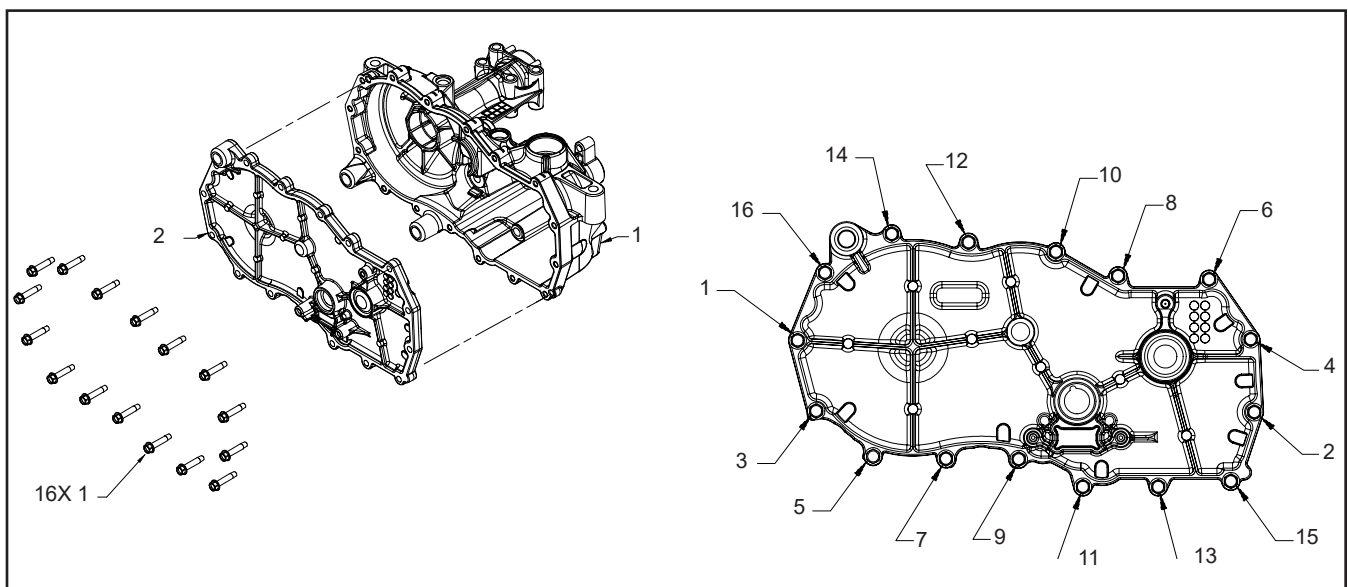

Figure 6. Side Cover
Refer to figure 6.
5. Remove the side housing screws (7).
6. Pull the side housing (2), leaving the axle (94) and bull gear (91) assembled in the main housing. It may be necessary to use pry tools at the pry points to break loose the sealant (positions 1-16 and 4-6, Figure 6).
2. Install the side housing (2). Use care not to smear the sealant bead.
3. Install the side housing screws (7). Refer to the screw tightening pattern in Figure 6 and torque specification in Table 2 on page 37.